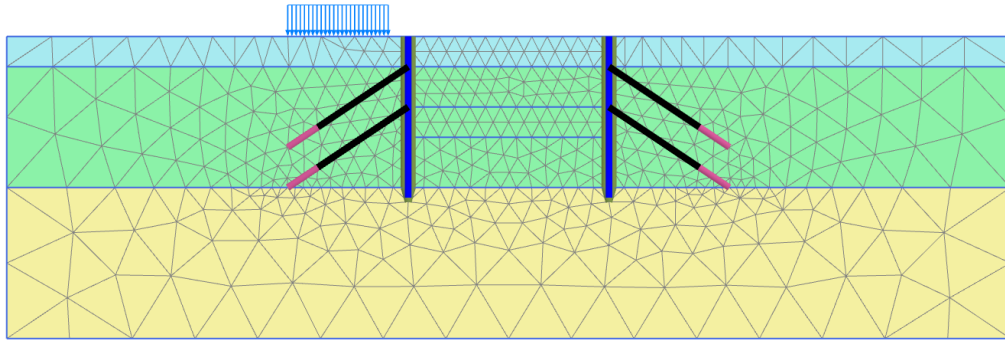

Figure 7-5: The generated mesh
- 3 Click the **View mesh** button  to view the mesh as shown in Figure 7-5 \(p. 129\).